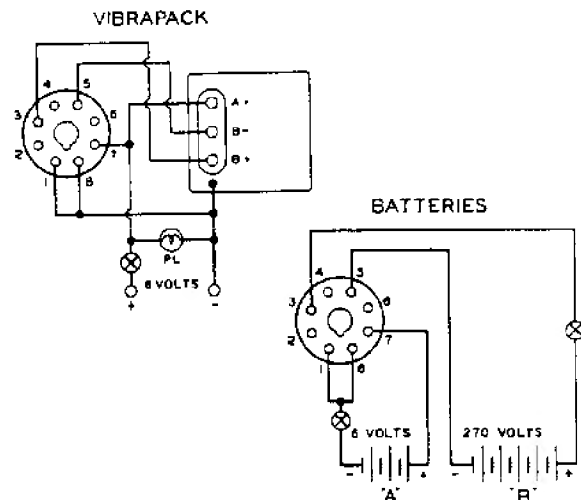

Figure 10. Octal plug wiring diagram
2. Wire an octal plug, as shown in Fig. 10, and plug it into socket SO-1. Use #19 (AWG) wire leads for the 270 volt "B" supply connections to pins #3 and #5, and #12 (AWG) wire leads for the 6 volt battery connections to pins #1, #7, and #8. **CAUTION.** Check the wiring carefully before connecting to the battery supply. The chart below lists the current voltage data.